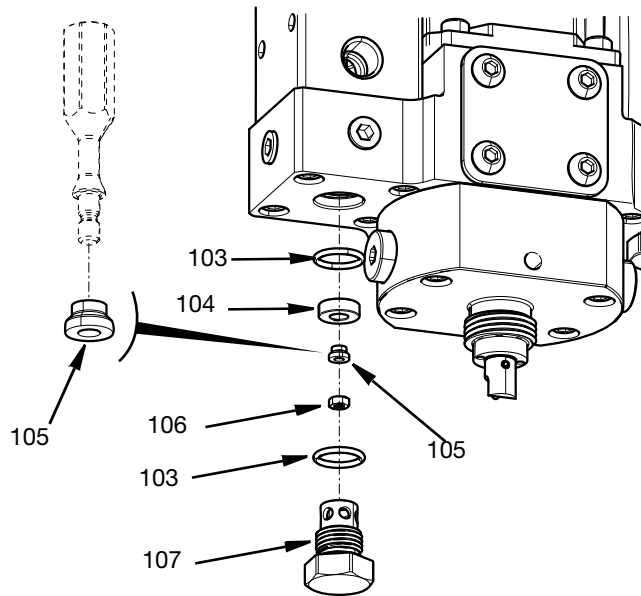

FIG. 43
2. Remove the valve seat retainer (107) using a 19 mm open end wrench.
3. Remove the nut (106) holding the reverse tip (105) using a 5.5 mm socket.
4. Using pin removal tool (149), align and center large diameter end of pin removal tool onto the reverse shaft (128) and press until it stops.
5. Remove the valve seat (104) and O-ring (103) using a 45° style pick. See FIG. 43 page 55.
3. Slide the reverse tip (105) onto the rod adapter. Note the orientation of the reverse tip. See FIG. 43.
4. Apply blue anaerobic sealant (132) to the threads of the rod adapter and tighten the nut (106) using a 5.5 mm socket. Torque to 8-10 in-lbs (1.12-1.35 Nm). Reference FIG. 43.
5. Install O-ring (103) onto valve seat retainer (107).
6. Install valve seat retainer (107). Torque to 30-35 in-lbs (3.39-3.95 Nm).